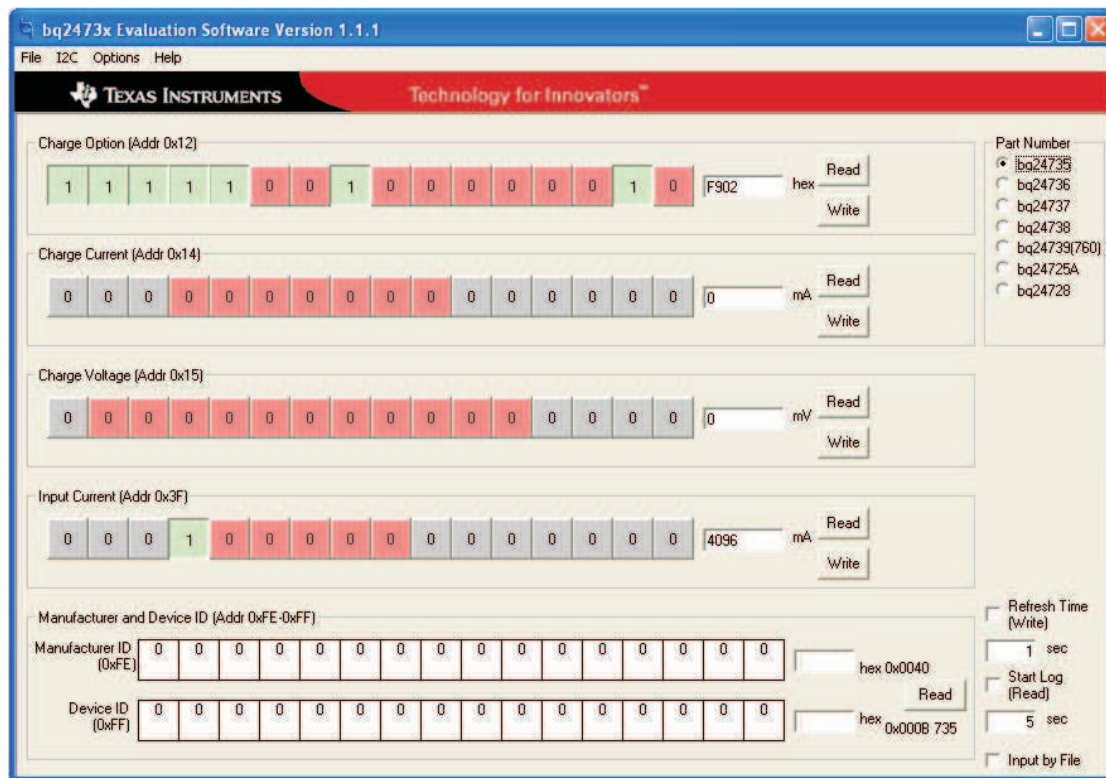

Figure 3. Main Window of bq24725A/735 Evaluation Software
11. Turn on the computer. Open the bq24725A/735 evaluation software. The main window of the software appears as is shown in Figure 3.
- a) Click OK. Then, close main window, as shown in Figure 3, and disconnect USB cable.
- d) Open the bq24725A/735 evaluation software. The main window of the software is shown in Figure 3.